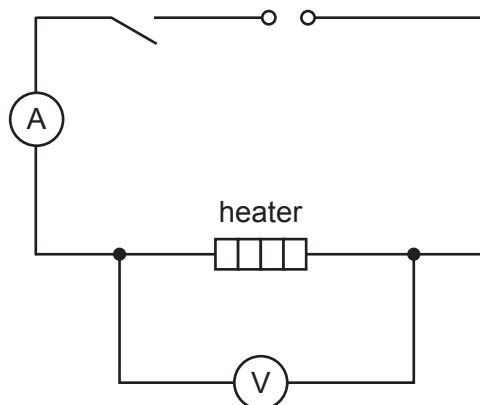
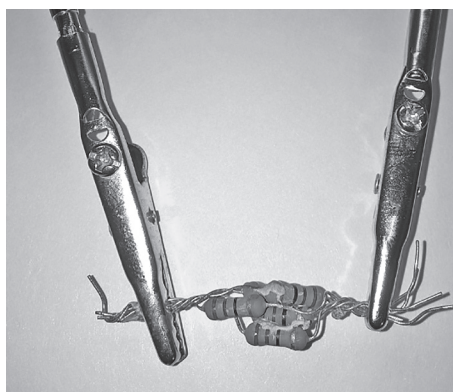

Fig. 1.1
Fig. 1.2
- The supervisor should set up the circuit as shown in Fig. 1.1. The resistors must be arranged in parallel with ends twisted together, as shown in Fig. 1.2.
At the changeover the supervisor should ensure that the circuit is in the configuration shown in Fig. 1.1 with the heater dry and the switch open. If cells have been used, ensure that they are still capable of providing the current and voltage described in Note 1 and replace if necessary.